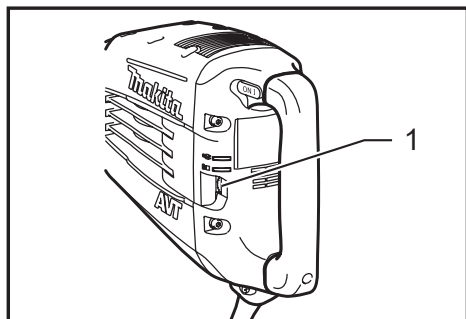

Fig.2
► **Fig.2:** 1. Adjusting dial